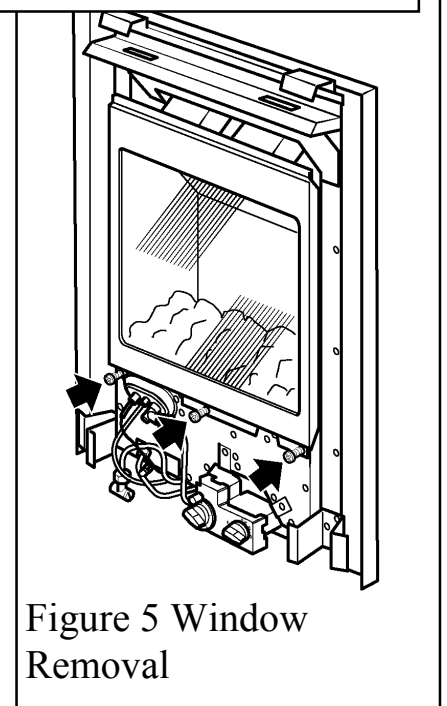

Figure 5 Window Removal
- Unscrew and remove the three spring loaded window fixing screws and washers from the base of the window frame. See figure 5. Keep the screws and washers in a safe place.